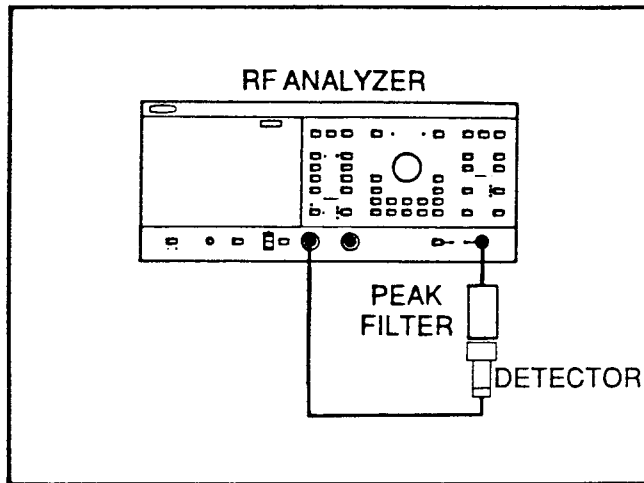

Figure 6-6. FM Coil Sweep Width
2. Set up the test equipment as shown in Figure 6-6.